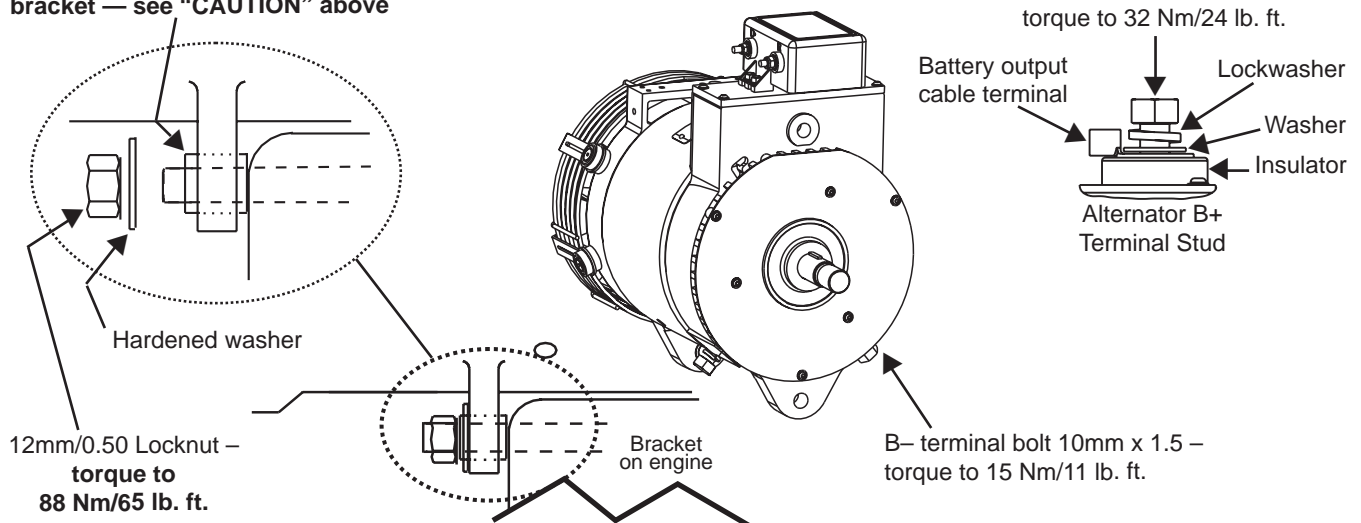

Figure 1 - C656 Alternator Installation Details
1. Install alternator as shown in Figure 1: